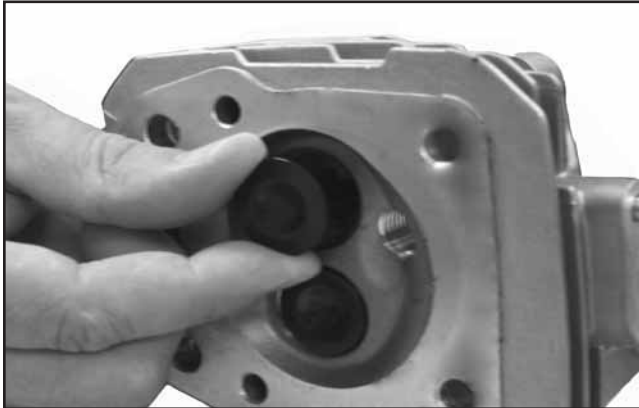

Figure 10-15. Installing Valves.
1. Install the INTAKE and the EXHAUST valves into their respective positions in the cylinder head. See Figure 10-15.